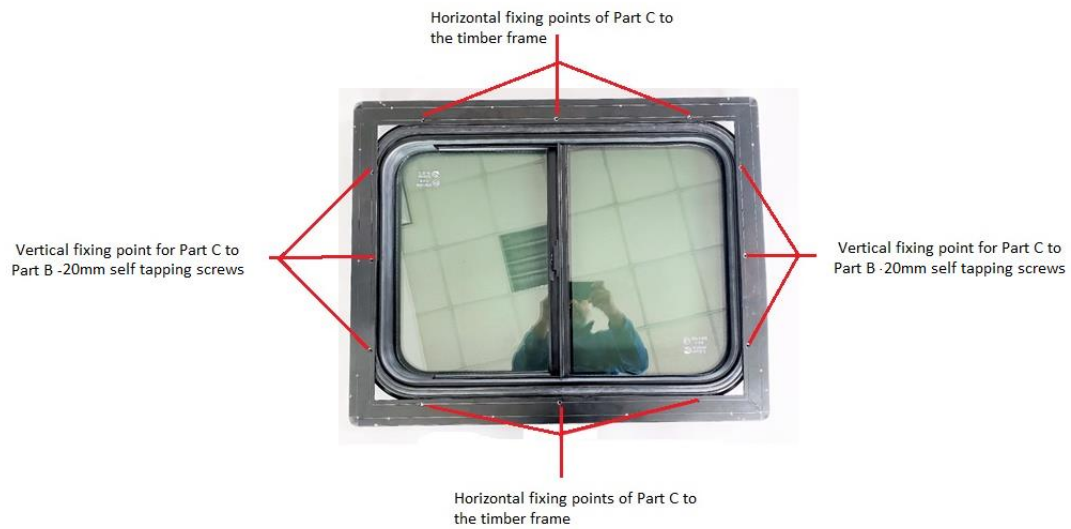

Fig 24
- Place the metal cassette mounting frame (PART C) over the inner round edged frame (PART B) (Fig 24)
- Screw the metal cassette mounting frame (PART C) to the inner round edged frame (PART B) using the vertical pre drilled holes on the cassette mounting frame (Part C) with 20mm flat head self-tapping screws (Fig 24)
- Screw the metal cassette mounting frame (PART C) to the timber frame (Fig 17) using the horizontal pre drilled hole (Fig 24) and (F20)